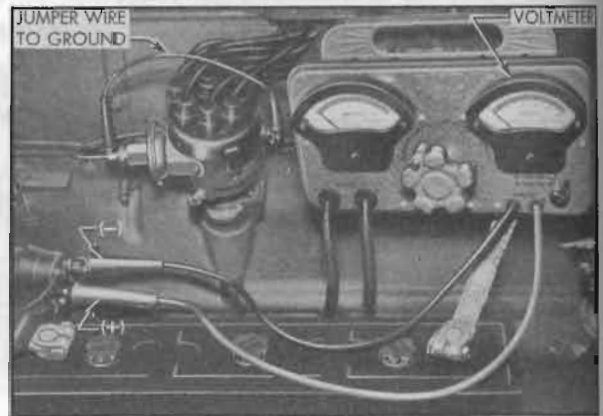

Figure 10-48—Solenoid Switch Contact Test Connections
6. With voltmeter switch turned to any scale above 6 volts, connect voltmeter negative (-) lead to the motor terminal of solenoid switch, and connect positive (+) lead to battery terminal of switch. See figure 10-48.